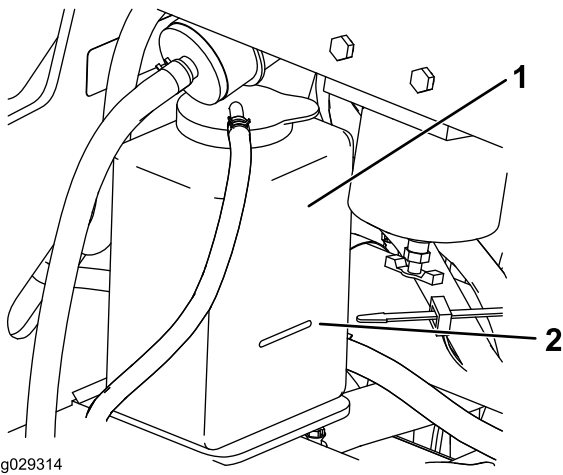

Figure 61
3. Check the coolant level in the expansion tank (Figure 61).